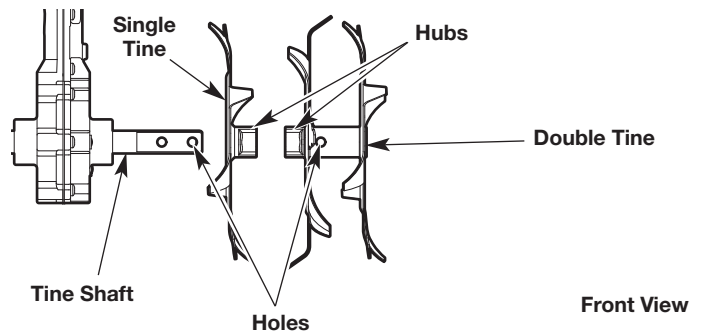

Fig. 12
2. Slide the new tines onto the tine shaft. The hubs must face toward each other (Fig. 12). Install the single tine first. Then install the double tine. Align the hole on the double tine with the hole on the tine shaft (Fig. 12).